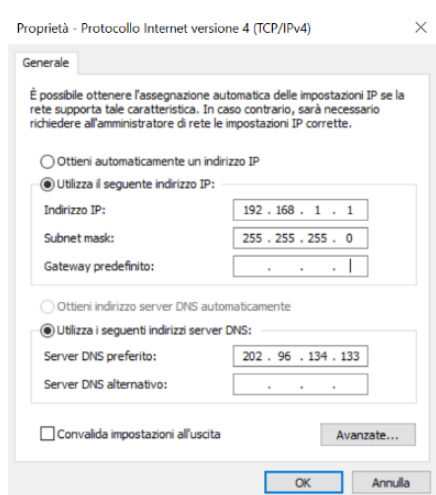
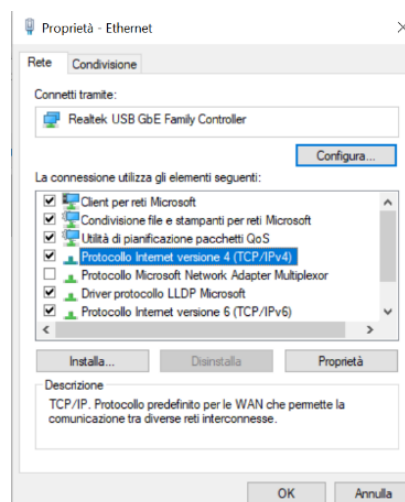

Fig. 13
Fig. 14
7. From the Ethernet properties menu (Fig.13), select "Internet Protocol version 4 (TCP/IPv4)" and press the properties button that you will have enabled in the meantime. The following screen will open (Fig.14)